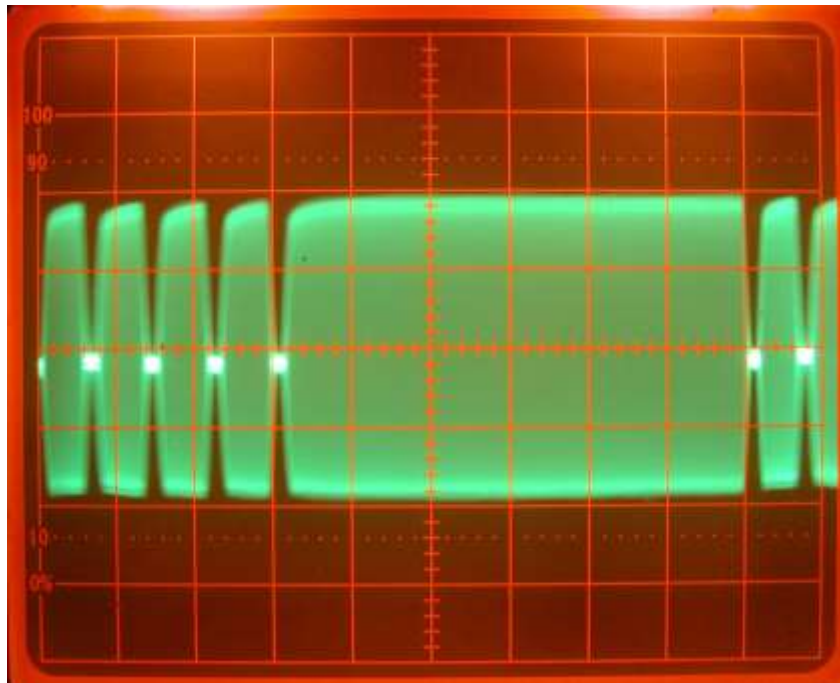

Fig 62
Fig 62 shows the RF output of four channel amplitude modulated (AM) Transmitter. The shaded area of the waveform is RF at 27MHz, which is being switched on and off by the modulation system of the transmitter. The first four pulses to the left are the four 1.5mSec channel pulses followed by the long synchronisation pulse. This pulse sequence is being repeated every 18 Milliseconds.